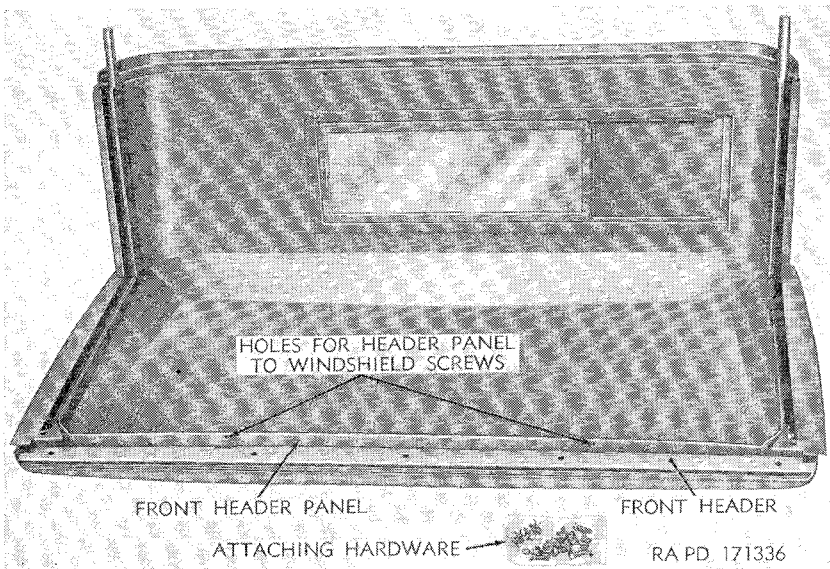

Figure 5. Components of hard-top closure kit.
2. USE. The hard-top closure (fig. 5) is installed, when the power plant heater kit is installed, for use in areas where ambient air temperatures as low as -65° F. are anticipated.
4. PREPARATION OF THE HARD-TOP CLOSURE. Remove the screws fastening the inside header front panel (fig. 5) to the closure header. Remove the panel.